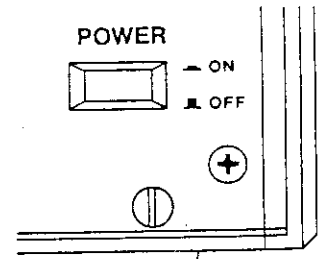

Fig. 3 Power ON
(1) Power ON
Press the power switch (1) ON (Fig. 3). At this time, the dial setting display (5) will indicate +0000. Initial setting is as follows: